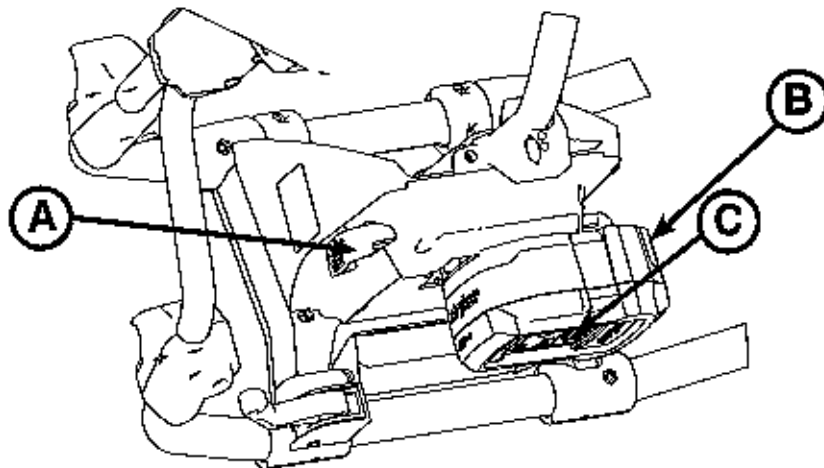

Figure 27: SMRT™ Pak Removal and Replacement
1. Press the red one hand release button (C) or press the battery release button (A) to release the SMRT™ Pak (B) from the cot as shown in Figure 27.